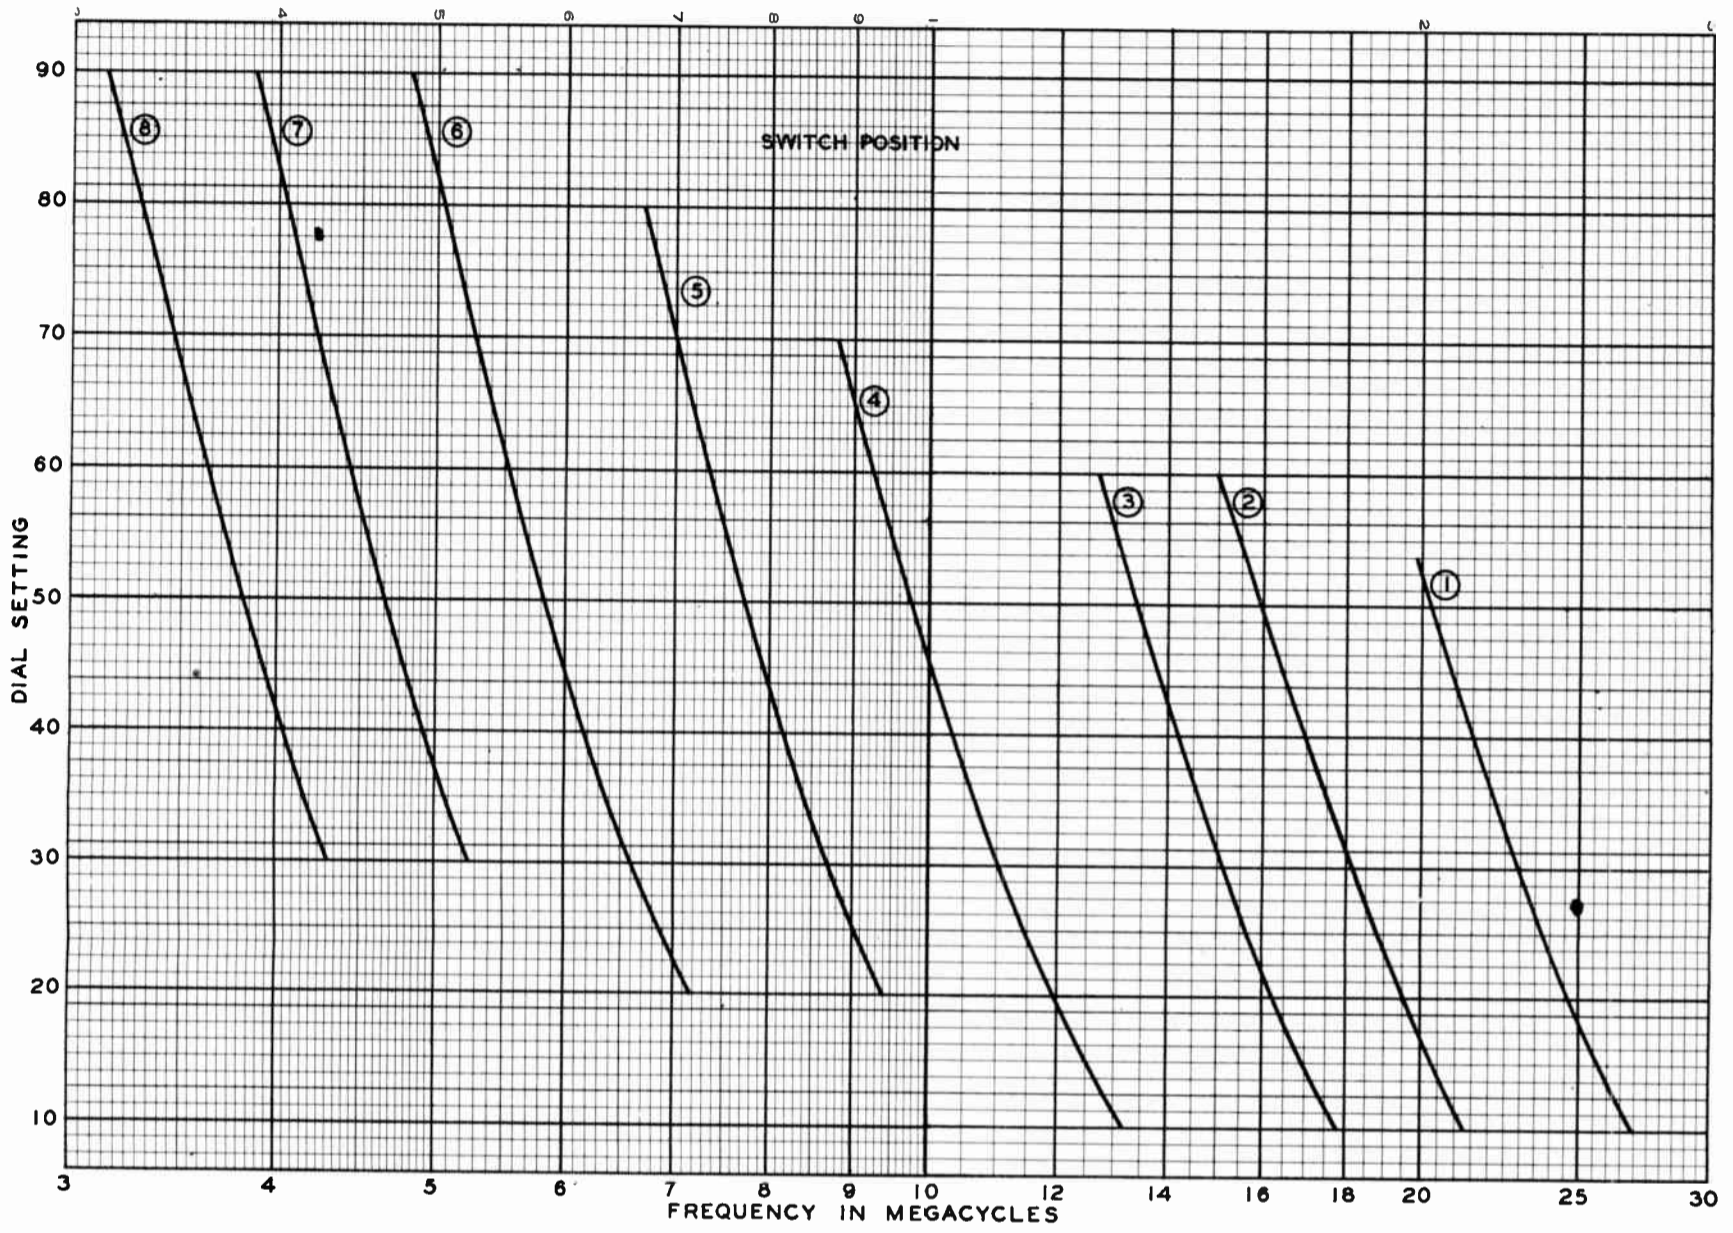

FIGURE 27A
4.6.3. Intermediate Amplifier Tuning. (See Figure 27A) The tank circuit mounted in the Power Amplifier Unit combines the intermediate amplifier plate tank and power amplifier grid tank circuits.